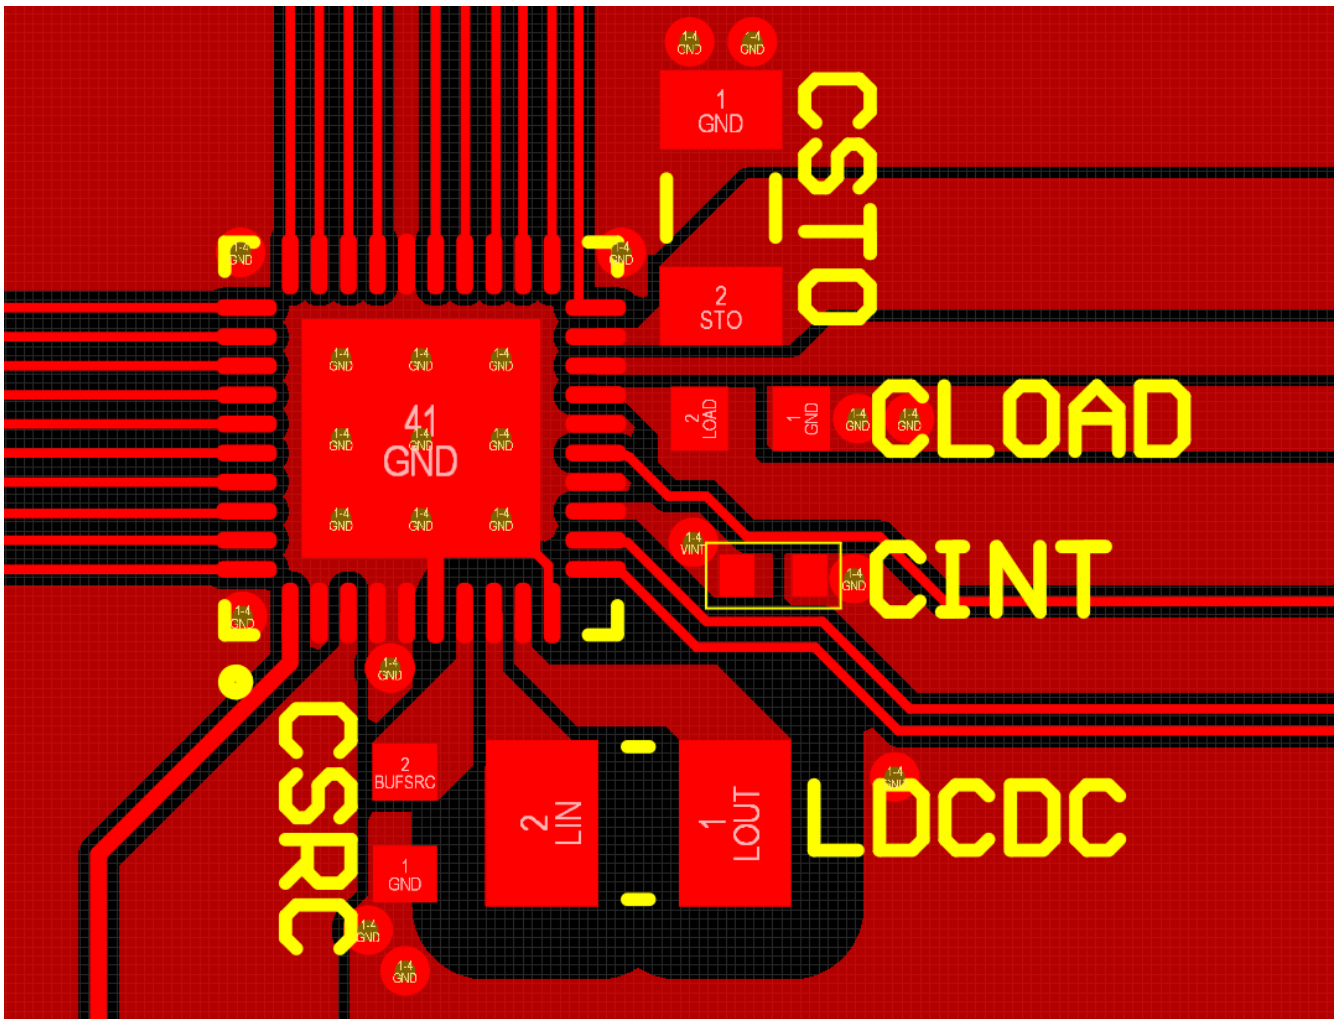

Figure 18: Layout Example for the AEM00330 and its Passive Components
- The switching nodes (**LIN** and **LOUT**) must be kept as short as possible, with minimal track resistance and minimal track capacitance. Low resistance is obtained by keeping track length as short as possible and track width as large as possible between  $L_{DCDC}$  and the AEM00330 pins. Minimal capacitance is obtained by keeping distance between **LIN/LOUT** and other signals. We recommend removing the ground plane, the power plane and the bottom layer ground pour under  $L_{DCDC}$  footprint, as well as adding distance between **LIN/LOUT** and the top ground pour, as shown on Figure 18.